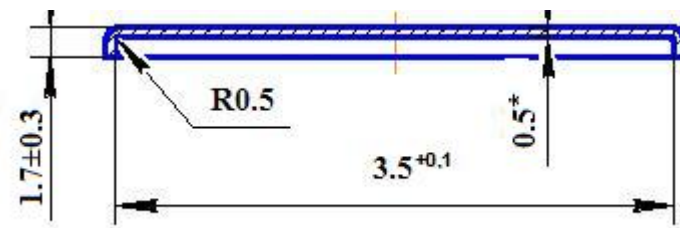

Figure 4
7.3 While reloading and assembling the MPP after its operation, it is necessary to use CGS 3 (Figure 1) CGS-4(M)-01 CIAB 066614.023.000 TU, fill in the MPP case with fire extinguishing powder and place the membrane 6 (Figure 1) made according to the drawing (Figure 4), Sheet AMuH2-0.5 GOST 21631-76. After placing the membrane, tighten the nut 9 (See Figure 1) under load  $(150 \pm 10) \text{N} \cdot \text{m}$ .